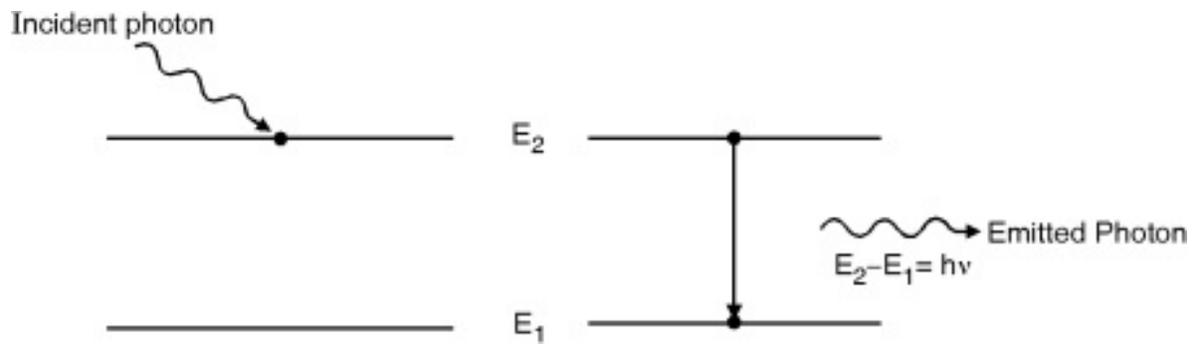

Fig. 4.2.3 : Stimulated emission
- This phenomenon is called forced emission or stimulated emission as shown in Fig. 4.2.3. The process may be represented as